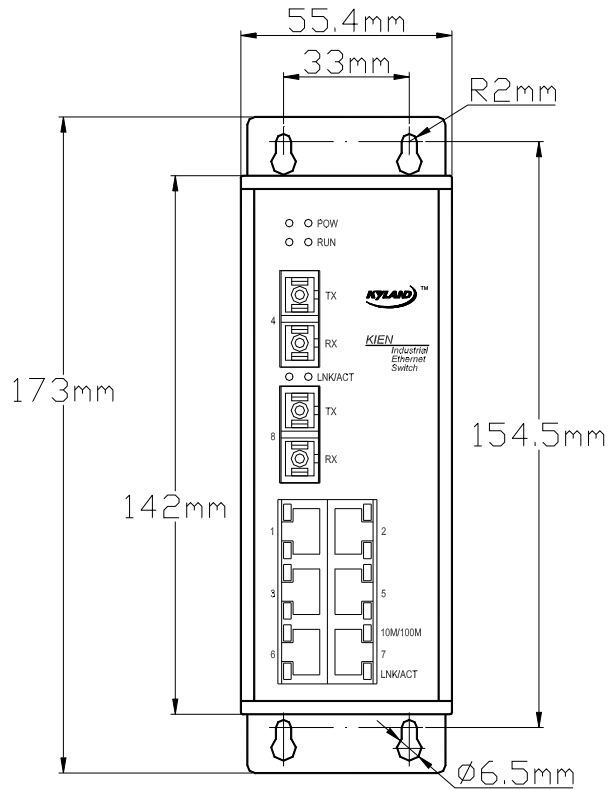

Figure 4-3 KIEN6000 wall-mounting dimensions
In some places, wall mounting may be more suitable than DIN rail mounting. KYLAND Telecom can provide the component (wall-mounting plate) for mounting KIEN6000 on wall. Wall-mounting dimensions are shown in Figure 4-3.
- 3 . Select mounting position: vertical wall or inner wall of cabinet. If you select to mount on vertical wall, you are recommended to use $\Phi 6$ plastic expansion bolts and $\Phi 3$ tapping screws for equipment mounting. According to the mounting dimensions marked in Figure 4-3, drill four $\Phi 6$ holes with an impact drill on the wall (the depth of the holes should allow fully inserting the plastic expansion bolt), fully insert the plastic expansion bolts in the holes on the wall, screw down the tapping screws into the plastic expansion bolts with a cross head screwdriver but do not screw down thoroughly, reserve a distance of around 5 mm; if you select to mount on the inner wall of cabinet, you are recommended to prepare four M3 threaded holes on the inner wall of cabinet when making the cabinet according to the mounting dimensions marked in Figure 4-3, or drill four $\Phi 4$ holes with a hand-held electric drill on site, and screw down four M3 \times 10 pan head screws with cross recess into the four holes with a cross head screwdriver (if the holes are not threaded inside, it is necessary to mount four M3 nuts on the back side). Do not screw down the screws thoroughly, reserve a distance of around 5 mm.